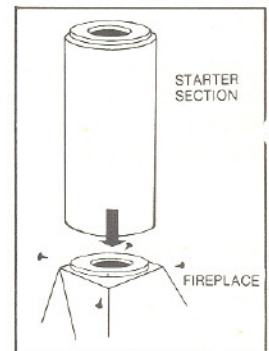

FIG. 1
- MOUNT** the Starter Section on top of fireplace (Fig. 1). Holes in bottom of Starter Section will now align with matching holes in fireplace top. Secure Starter Section to top of fireplace with four #8 x 1" screws provided. (If using Fireplace Offset to incline chimney, see Offset details.)